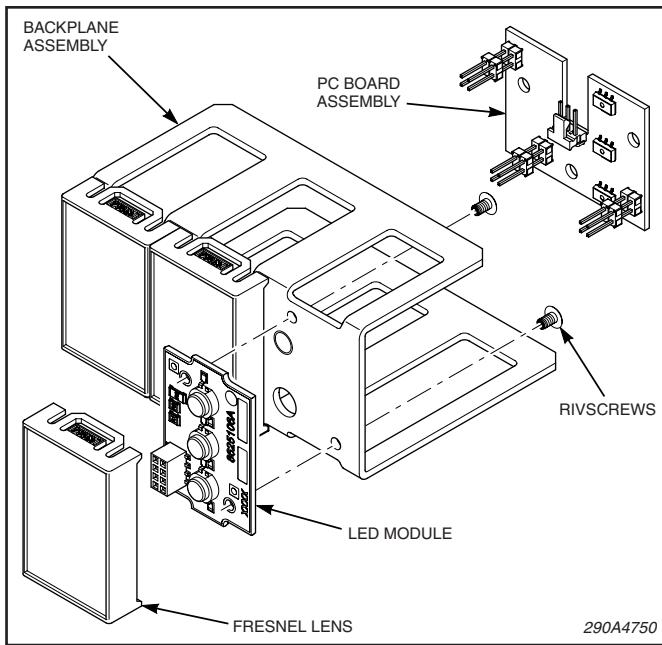

Figure 10.
## G. PCB Backer Board Assembly Replacement, TriOptic LEDs (see figure 10).
I. *LED Module Replacement, TriOptic LEDs (see figure 10).*
K. *Fresnel Lens Replacement (see figure 10).*